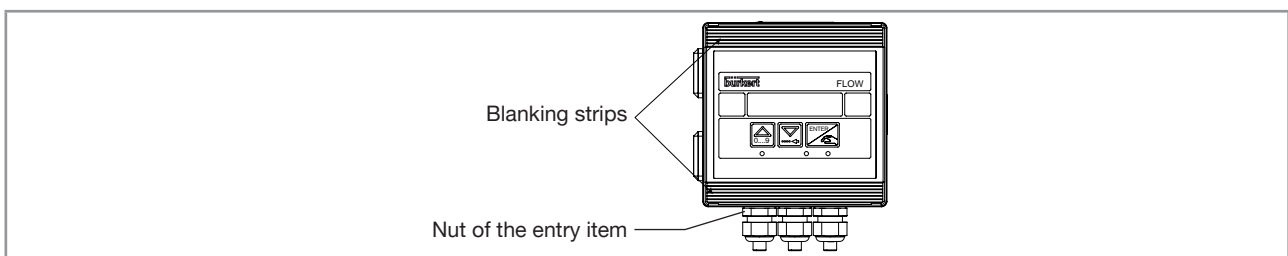

Fig. 12: Location of the fastening nuts and the covering strips
- Remove the blanking strips covering the screws (Fig. 12).